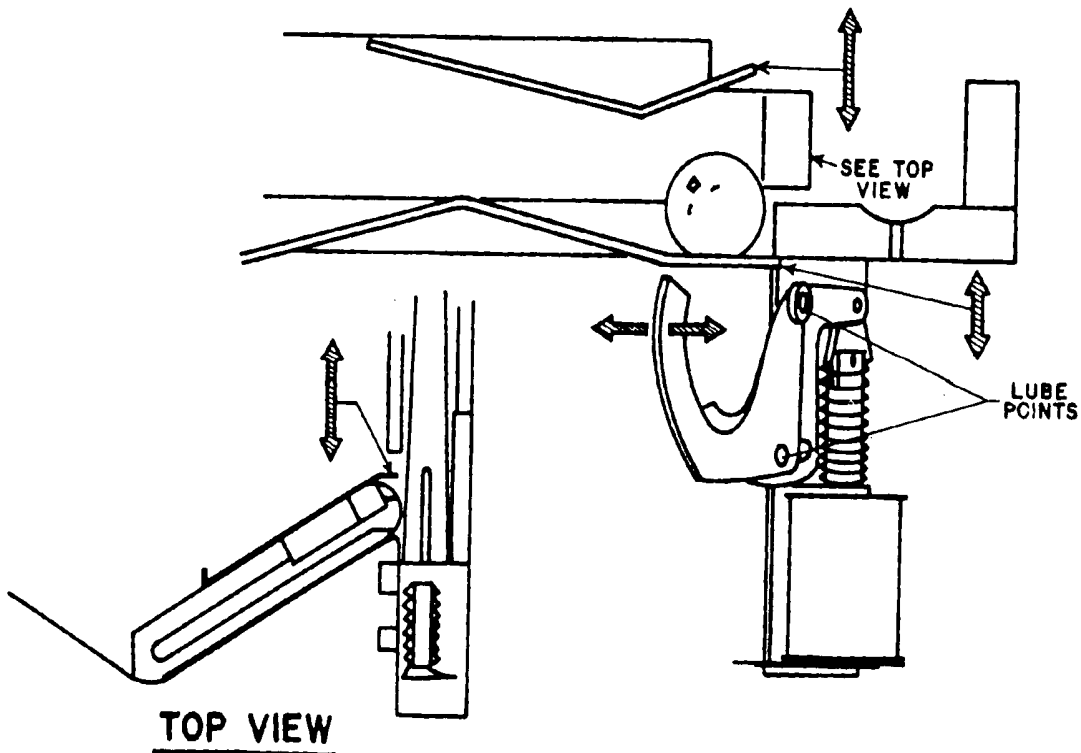

Figure 3. Adjustments and Lubrication Points, Shooter Lane Feeder.
- Figure 3 shows the two main lubrication points of the Ball Eject (Shooter Lane Feeder). The shaded arrows show the directions in which the Ball Eject and other parts of its related assemblies can be adjusted for proper operation. Note that the mechanisms of the Top Right Eject Hole Arm Assembly and the Right Lock (Eject Hole) are quite similar to the Ball Eject Assembly; they have the same lubrication requirements and adjustment capabilities as the Ball Eject.